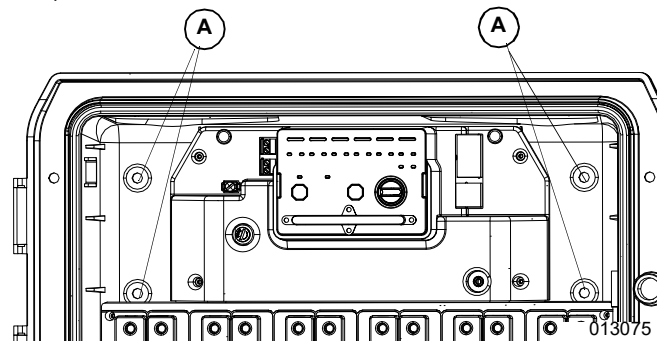

Figure 3-3. Surface Mounting Holes
See Figure 3-3. When installing on a cinderblock, brick, or concrete wall, drill through the mounting holes in the back (A), and use suitable concrete anchors (not provided) to fasten unit to the wall. (recommend 1/4 in bolt)